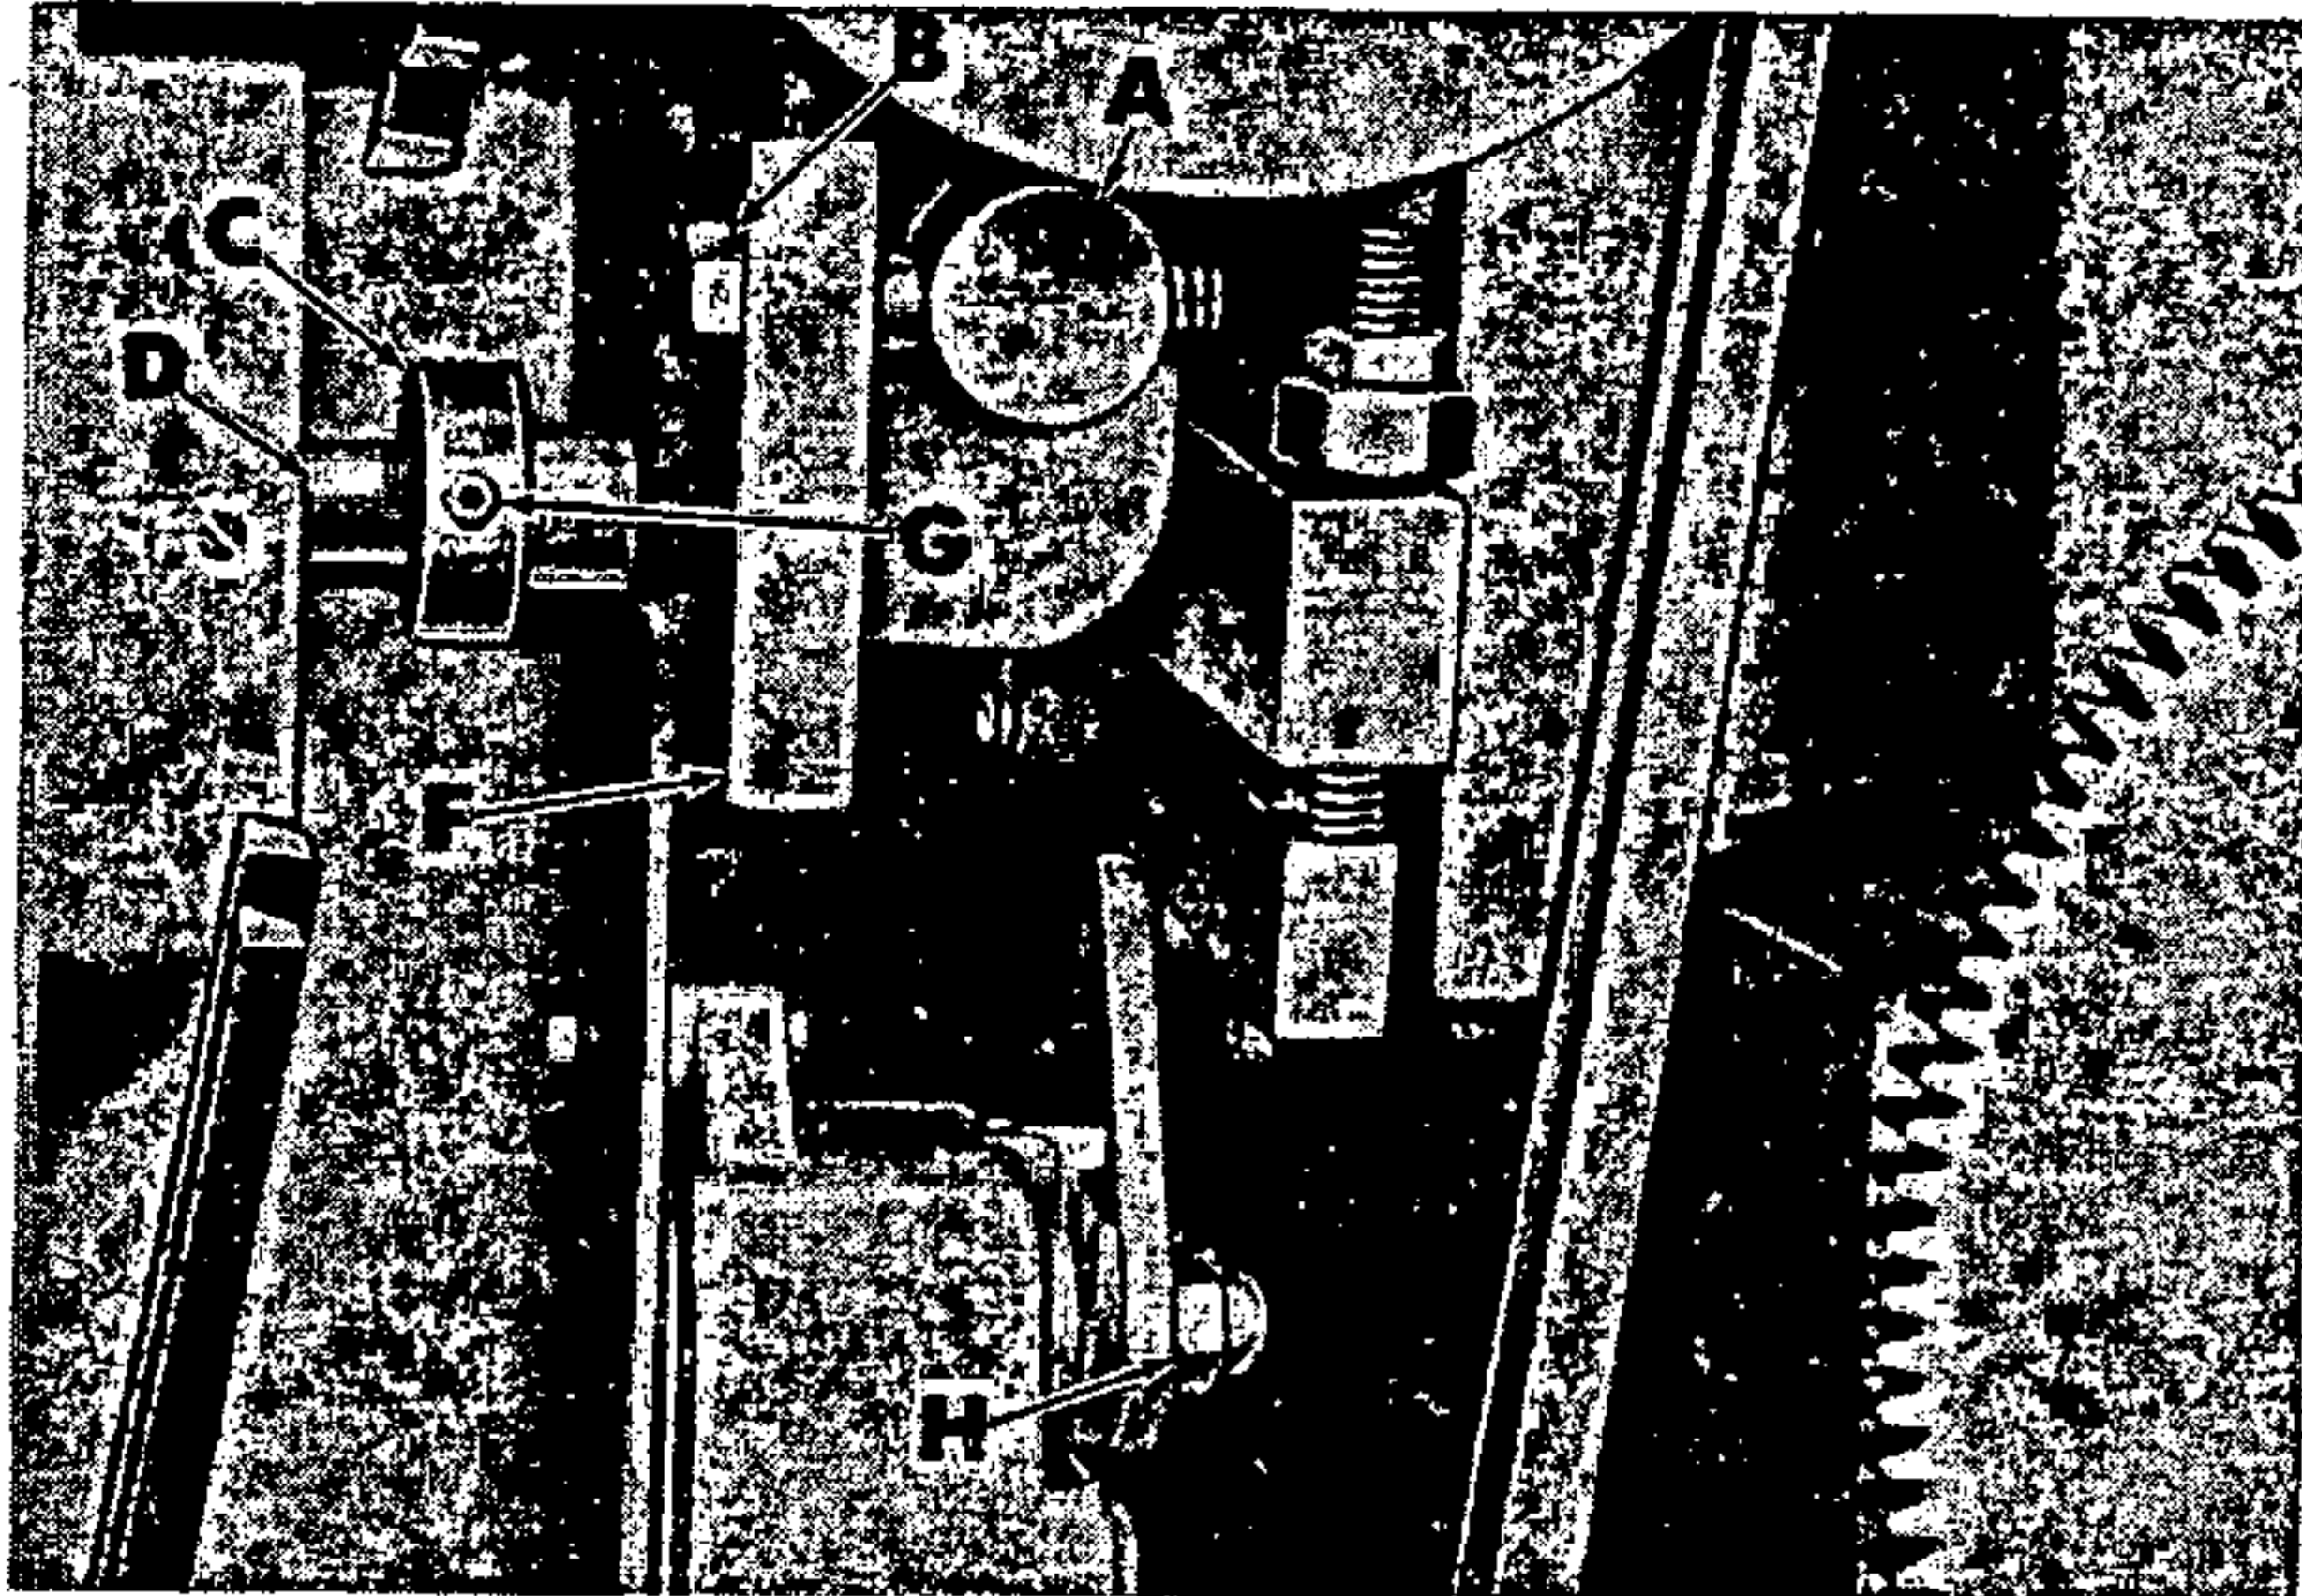
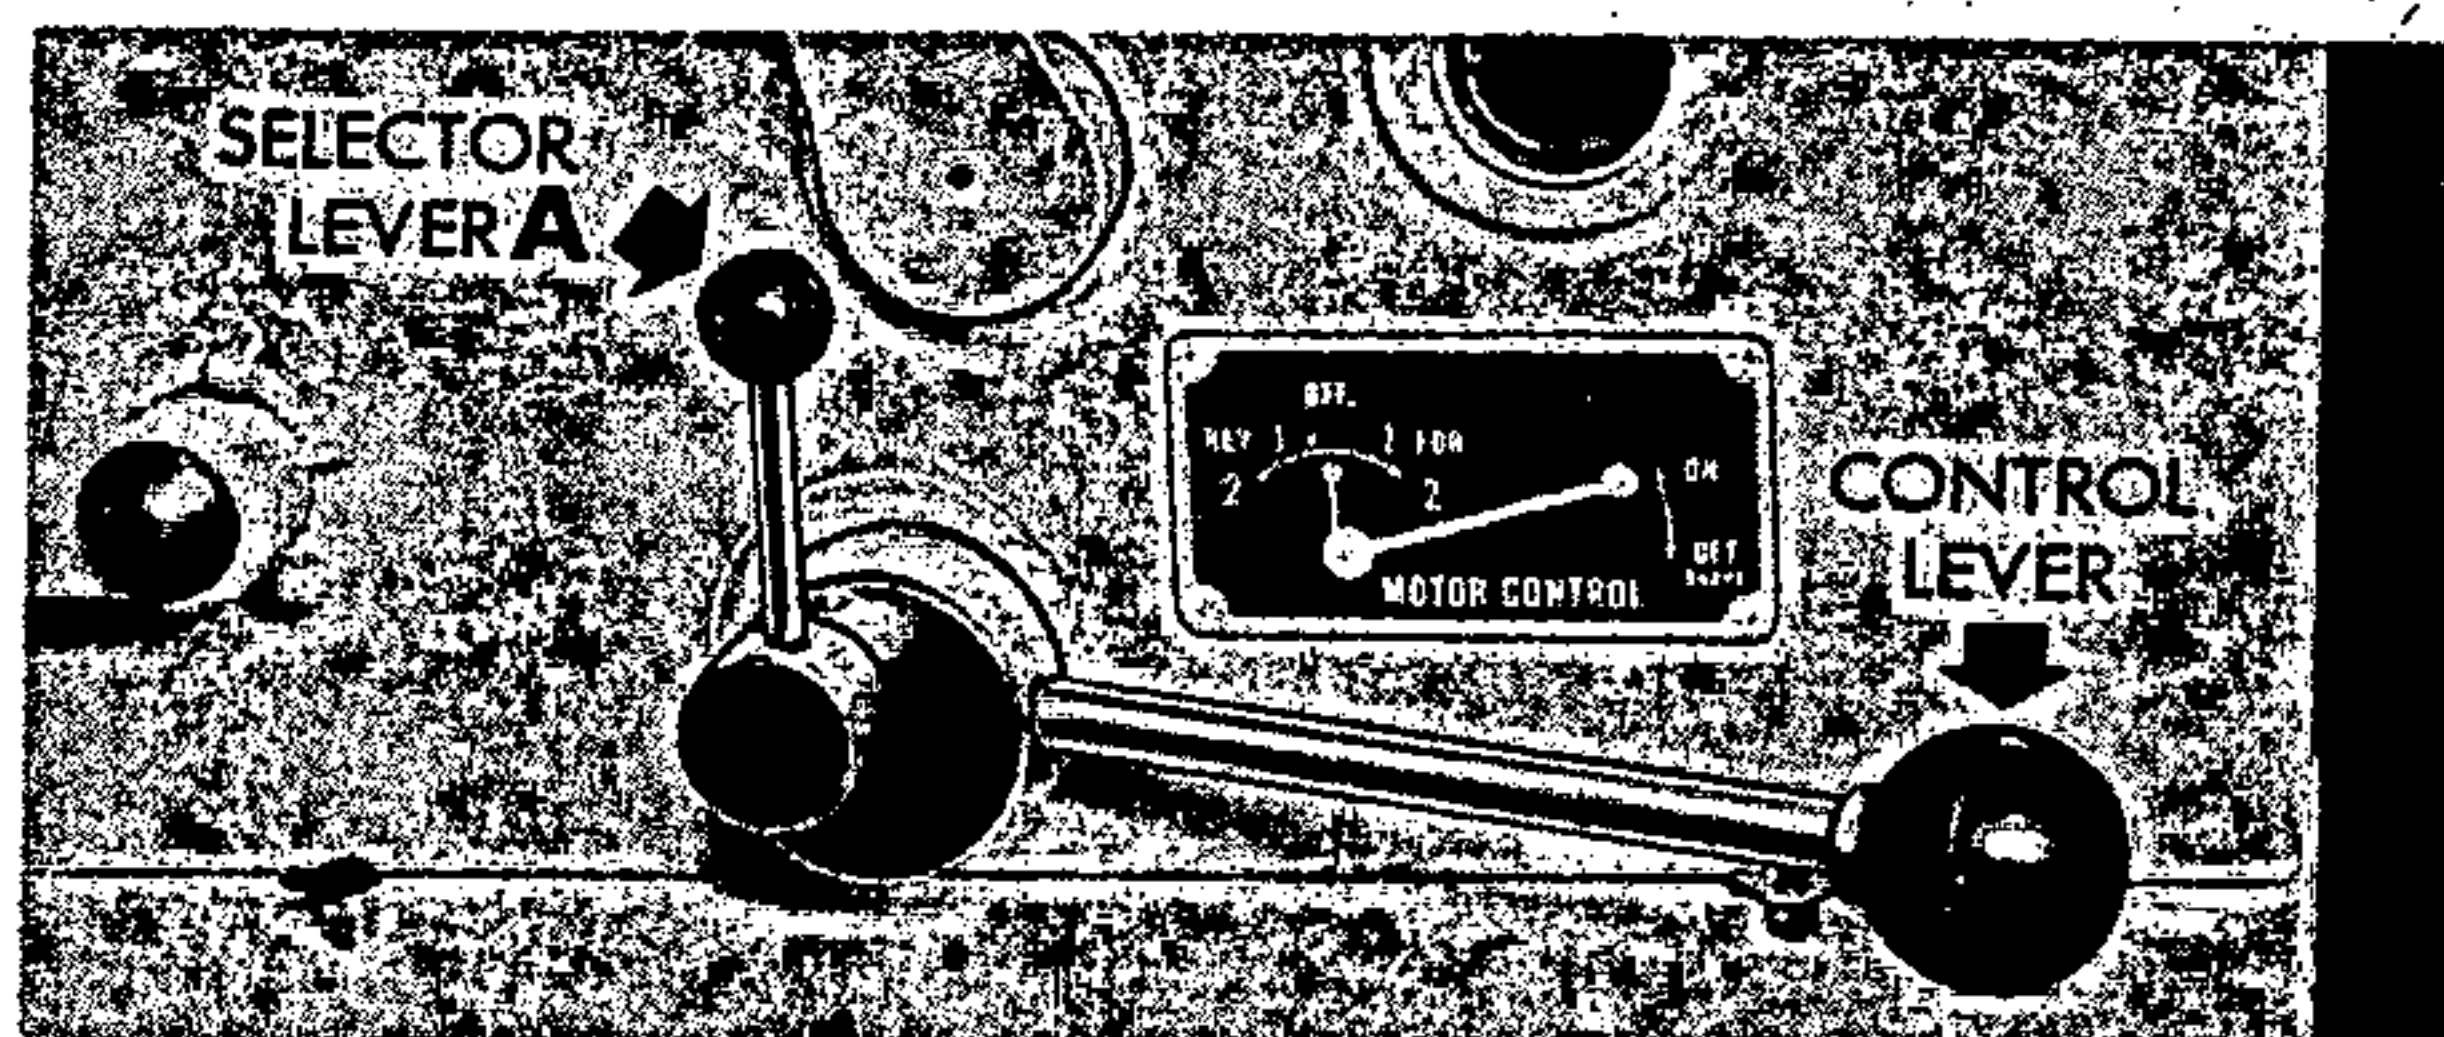

Figure 1
Figure 3
1. Before installing switch panel assembly turn the reversing switch shaft (D, fig. 1) clockwise as far as it will go, and then back two "clicks" — the switch is now in the off position.
3. Slide drum switch shaft (D, fig. 1) with switch panel into coupling (C), then align mounting bar (A) with holes in mounting plate (F) and secure in place with two 3/8-16 x 2" screws (B). DO NOT TIGHTEN SECURELY.
4. Make sure selector lever (A, fig. 3) rotates freely. If binding condition occurs, loosen mounting screws (B, fig. 1) and realign, then tighten screws securely.
5. Hold the small reversing selector lever at the front of the lathe head stock in a vertical position and securely tighten set screw (G) in coupling collar (C) to clamp reversing switch shaft.
12. If spindle rotation does not correspond to selector switch notation, interchange any two line leads. If the motor does not start when the control lever is in the "up" or "on" position, or stop in the "down" position, adjust the travel of the limit switch arm on the switch lever by loosening the adjusting nut (H, fig. 1). If the brake lever at the rear of the headstock jams on the threaded end of the brake link, adjust set screw in the bracket on the switch panel to limit travel of the switch lever.